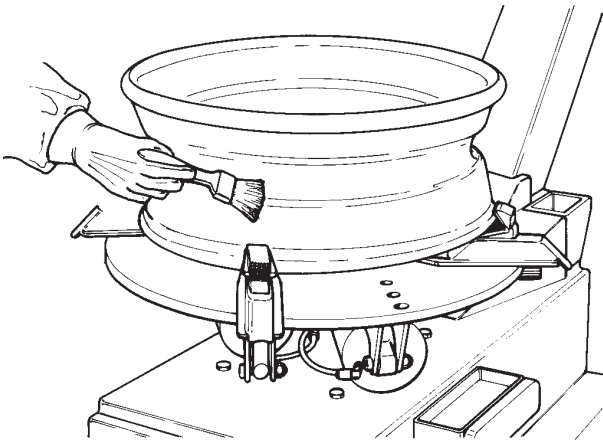

Fig. 4-8
A. Clean entire rim surface (Fig. 4-8).